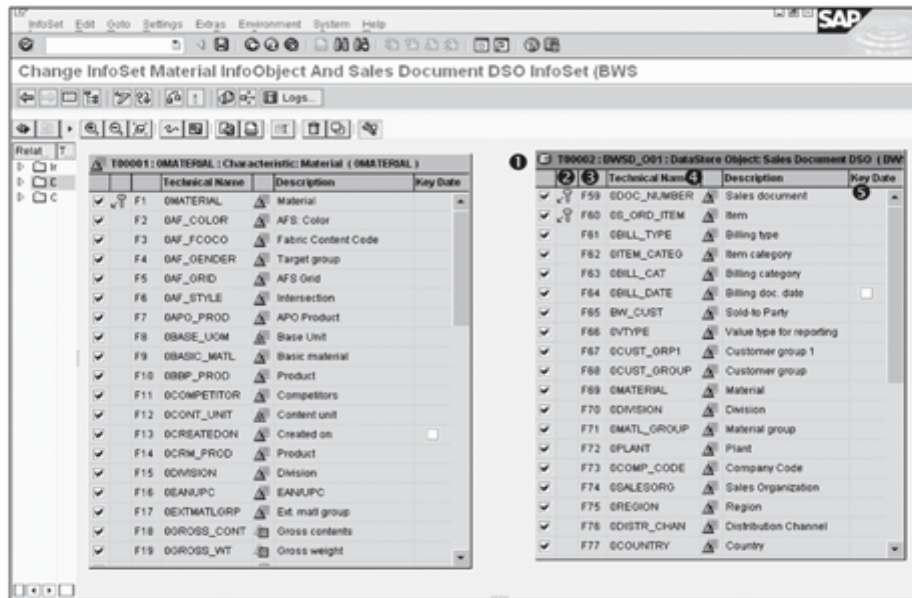

Figure 6.21 Creating InfoSet: Second Source Inserted
The screen now changes as shown in Figure 6.21. DSO BWSD_O01 is displayed (1). This time, the technical number attached to DSO BWSD_O01 is T00002. The column shown under 2 shows 0DOC_NUMBER and 0S_ORD_ITEM. These two InfoObjects are configured as key fields of DSO BWSD_O01. The fields of DSO BWSD_O01 are numbered starting from F59 (4). The fields F1 to F58 are used for InfoObject 0MATERIAL, so the DSO BWSD_O01 fields are numbered from the next running number.